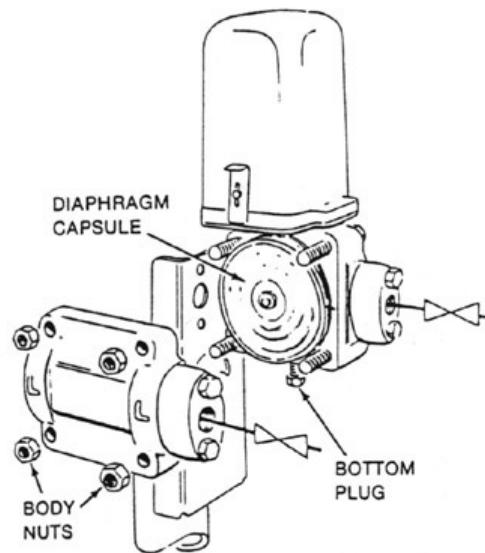

Figure 6.
4. Remove the bottom plug (Figure 6). Insert 1/4 inch hex key wrench in opening and loosen, but do not remove, flexure locknut.